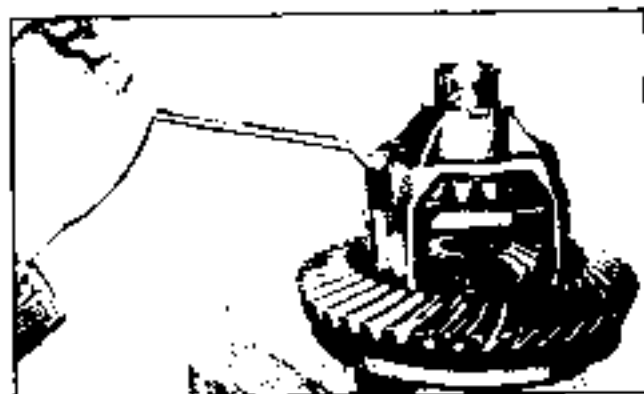

Fig. 4A-27 Installing pinion Shaft Locking Bolt
7. Install pinion shaft and pinion shaft locking bolt. Torque to 15 lb. ft. (Fig. 4A-27).
1. Clamp cap half of case in vise and install proper side gear and thrust washer (Fig. 4A-28) in cap half.
2. Assemble the four pinions and the four thrust washers onto the pinion cross shaft and place in position in the cap half of the differential case (Fig. 4A-29).